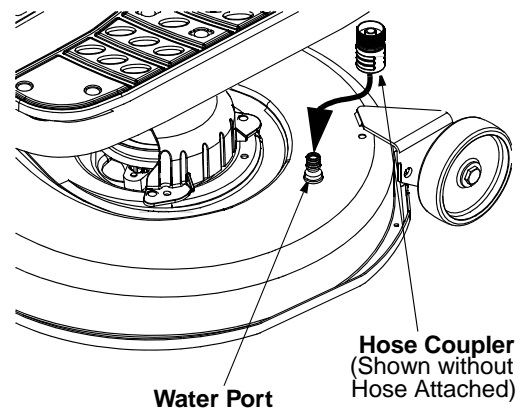

Figure 12
5. Thread hose coupler (packaged with this manual) onto the end of your garden hose. See Figure 12.
6. Attach the hose coupler to the water port on your decks surface. See Figure 12. Turn the water on.